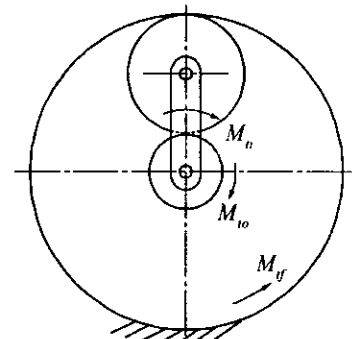

Fig. 7.16
**Torque in an epicyclic gear train :** (Refer fig. 7.16)